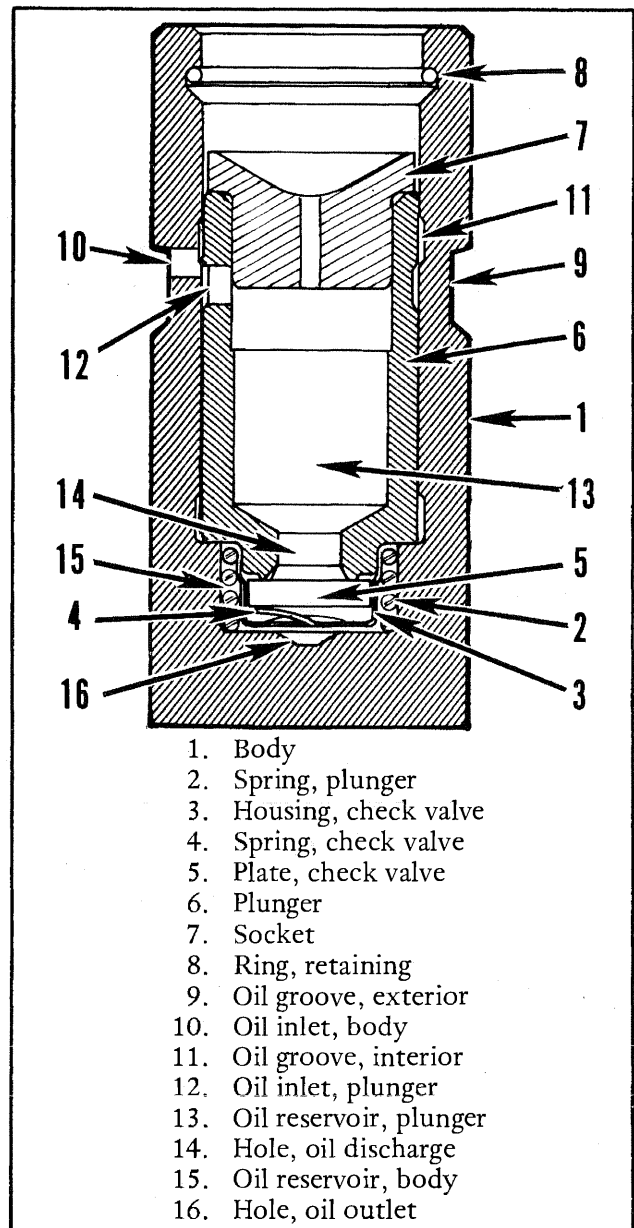

FIGURE 2-6. CUTAWAY VIEW OF HYDRAULIC VALVE LIFTER.
The barrel-type hydraulic lifter may be removed and replaced without complete disassembly of the engine as described in Section IV. The construction and operation of the tappets are described in paragraph 2-15 and Figure 2-6.
## 2-15. VALVE MECHANISM (See Figure 2-6).
b. The barrel-type hydraulic lifter (See Figure 2-6) consists of a steel body (1), an expanding spring (2), and a check valve assembly (3,4 and 5), a plunger (6), a socket (7) for pushrod end, and a retaining ring (8). A groove (9), around outside of body picks up oil under pressure from crankcase supply hole only when lifter is near outer end of its stroke so engine pressure will not "pump up" plunger and hold the valve off its seat. From the exterior groove oil is directed to interior body groove (11) through hole (10) and from the interior groove through the hole (12) to the reservoir (13). Oil is withheld from reservoir (15) by check valve plate (5) which is supported by spring (4) of housing (3). The check valve is opened by outward motion of the plunger under pressure of the expanding spring whenever a clearance occurs in the valve train. Thus the body reservoir is kept full of oil which transmits lifting force from body of plunger. The plunger and socket are fitted to the body selectively to permit a calibrated leakage so the lifter will readjust its effective length after each cycle, while cylinder valve is closed, to return "lash" in valve train to zero. This also permits contraction of the valve train length when the engine cools. Tappet bodies, plunger, and socket assemblies are not interchangeable, because of the narrow limits of permissible diametrical clearance, but retaining rings and expanding springs may be interchanged without ill effect.